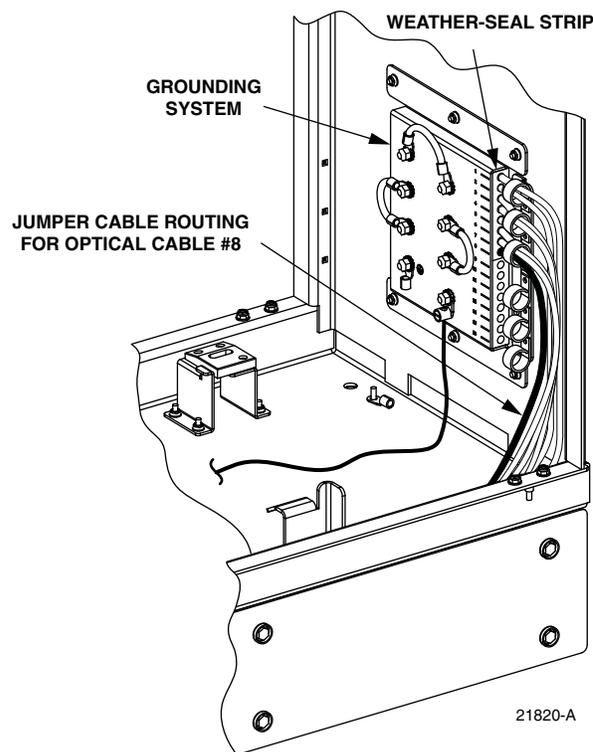

Figure 28. Cable Grounding System - Interior View
19. Locate the weather-seal strip attached to the right side of the cabinet grounding system as shown in Figure 28.